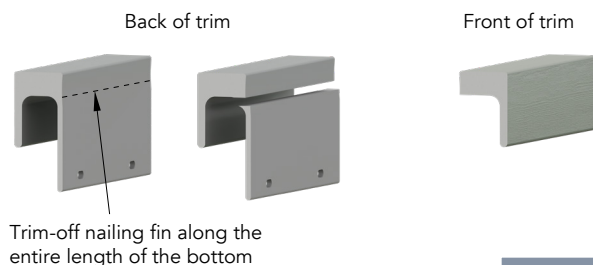

Figure 5
- To aid in ease of installation, trim the nailing fin off of the bottom trim piece (Figure 5).
- Measure the body of the trim and add ⅛" to ¼" to ensure clearance between the top of the siding panel and the base of the trim pocket (Figure 5).